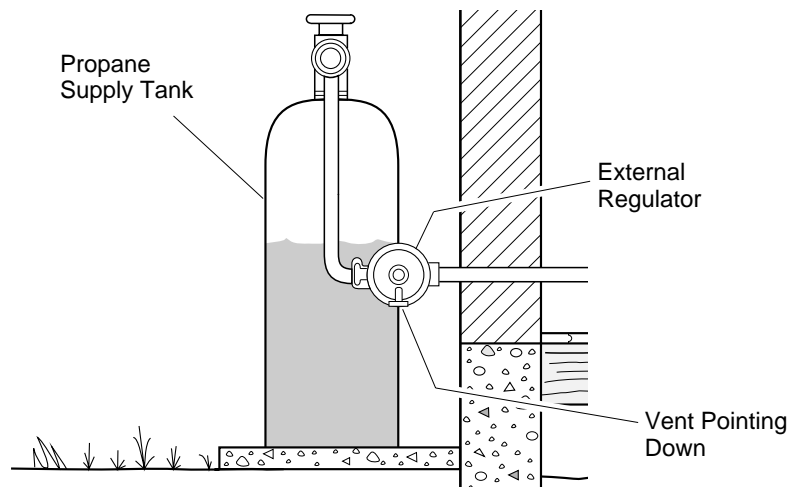

Figure 12 - External Regulator With Vent Pointing Down
- external regulator (supplied by installer, see Figure 12)
The installer must supply an external regulator. The external regulator will reduce incoming gas pressure. You must reduce incoming gas pressure to between 11 and 14 inches of water. If you do not reduce incoming gas pressure, heater regulator damage could occur. Install external regulator with the vent pointing down as shown in Figure 12. Pointing the vent down protects it from freezing rain or sleet.